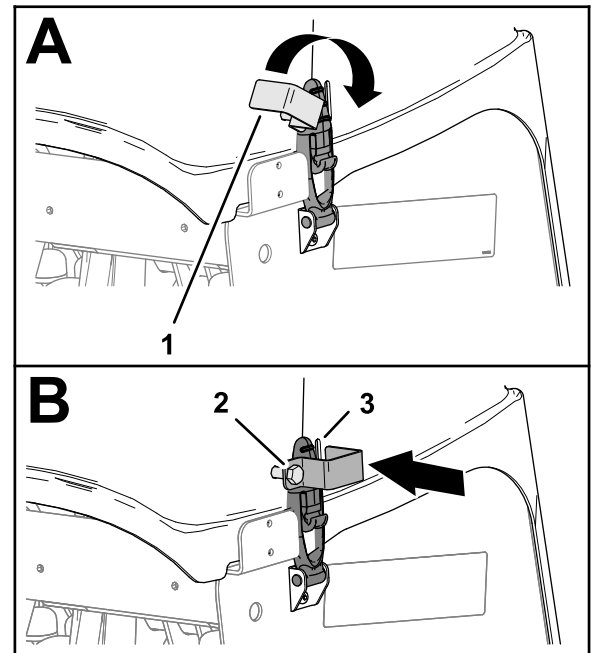

**Figure 152**
1. Align the coring-head cover to the machine as shown in Figure 152.